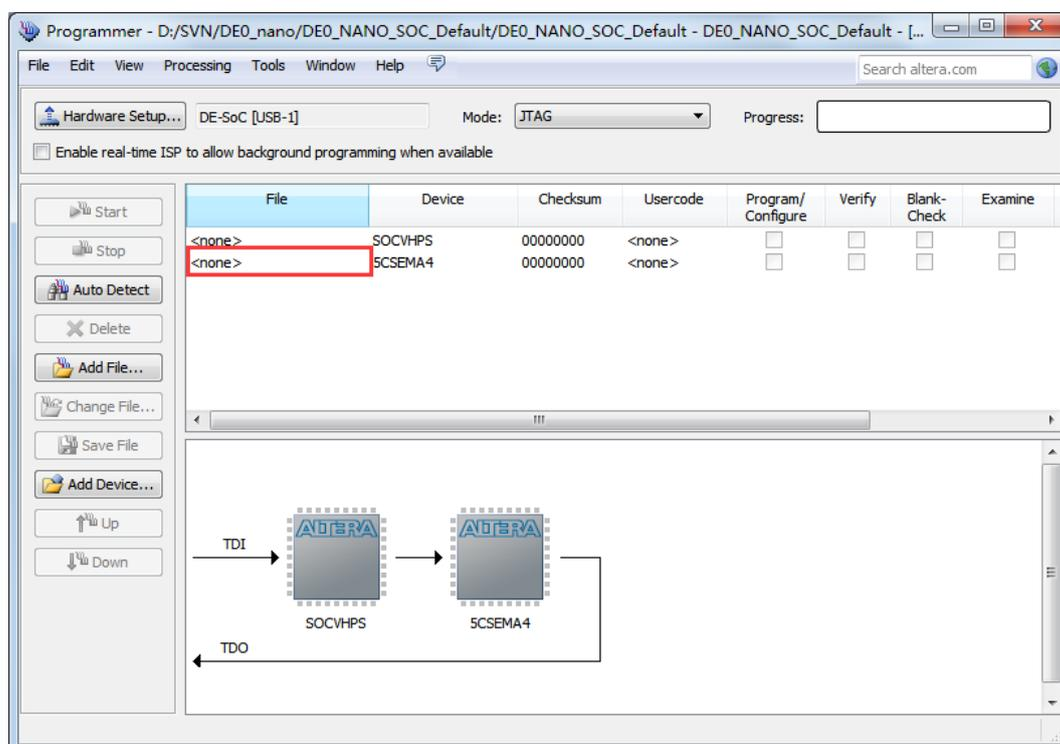

Figure 7-7 Two devices are detected in the Quartus II Programmer
3. Click **Auto Detect** and then select the correct device(5CSEMA4). Both FPGA device and HPS should be detected, as shown in **Figure 7-7**.
4. Double click the red rectangle region shown in **Figure 7-7** and the **Select New Programming File** page will appear. Select the .jic file to be programmed.
3. Click **Auto Detect**, and then select correct device, both FPGA device and HPS will be detected. (See Figure 7-7)
4. Double click the red rectangle region shown in Figure 7-7, and the **Select New Programming File** page will appear. Select the correct .jic file.